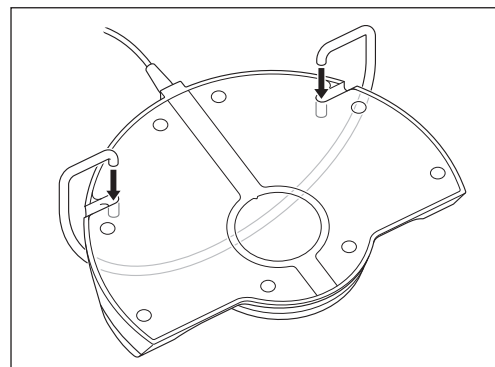

Fig. 4
- 1) Insert the Foot Control Hanger so that it fits correctly into the holes at the rear of the Foot Control (Fig. 4).